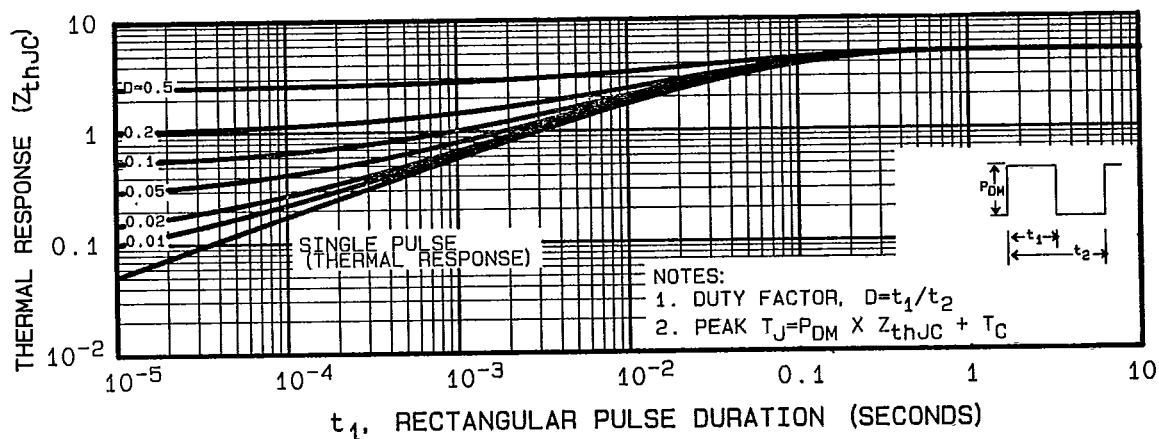

Fig. 5 — Maximum Effective Transient Thermal Impedance, Junction-to-Case Vs. Pulse Duration
- ① Repetitive Rating; Pulse width limited by maximum junction temperature (see figure 5)
- ② @ $V_{DD} = 25\text{V}$, Starting $T_J = 25^\circ\text{C}$, $L = 100\mu\text{H}$, $R_G = 25\Omega$, single pulse.
- ③ $I_{SD} \leq 8.2\text{A}$, $dI/dt \leq 130\text{A}/\mu\text{s}$, $V_{DD} \leq 40\text{V}$, $T_J \leq 150^\circ\text{C}$, Suggested $R_G = 24\Omega$
- ④ Pulse width $\leq 300\mu\text{s}$; Duty Cycle $\leq 2\%$
- ⑤ $\text{K/W} = ^\circ\text{C}/\text{W}$, $\text{W/K} = \text{W}/^\circ\text{C}$
- ⑥ Mounting pad must cover heatsink surface area. See case style drawing on front page.